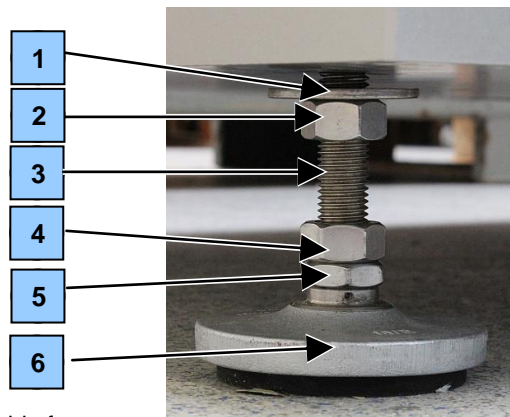

Fig. 99. Adjustable foot.
- > Loosen the lock nuts #2 on all of the adjustable feet, see Fig. 99.